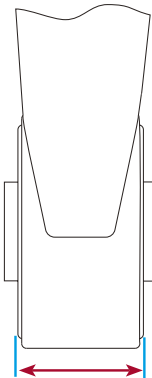

Figure 9: Narrow 3" (75 mm) bush for AANT & AANL
- The narrow bush is 3 inches (75 mm) wide, refer Figure 9.